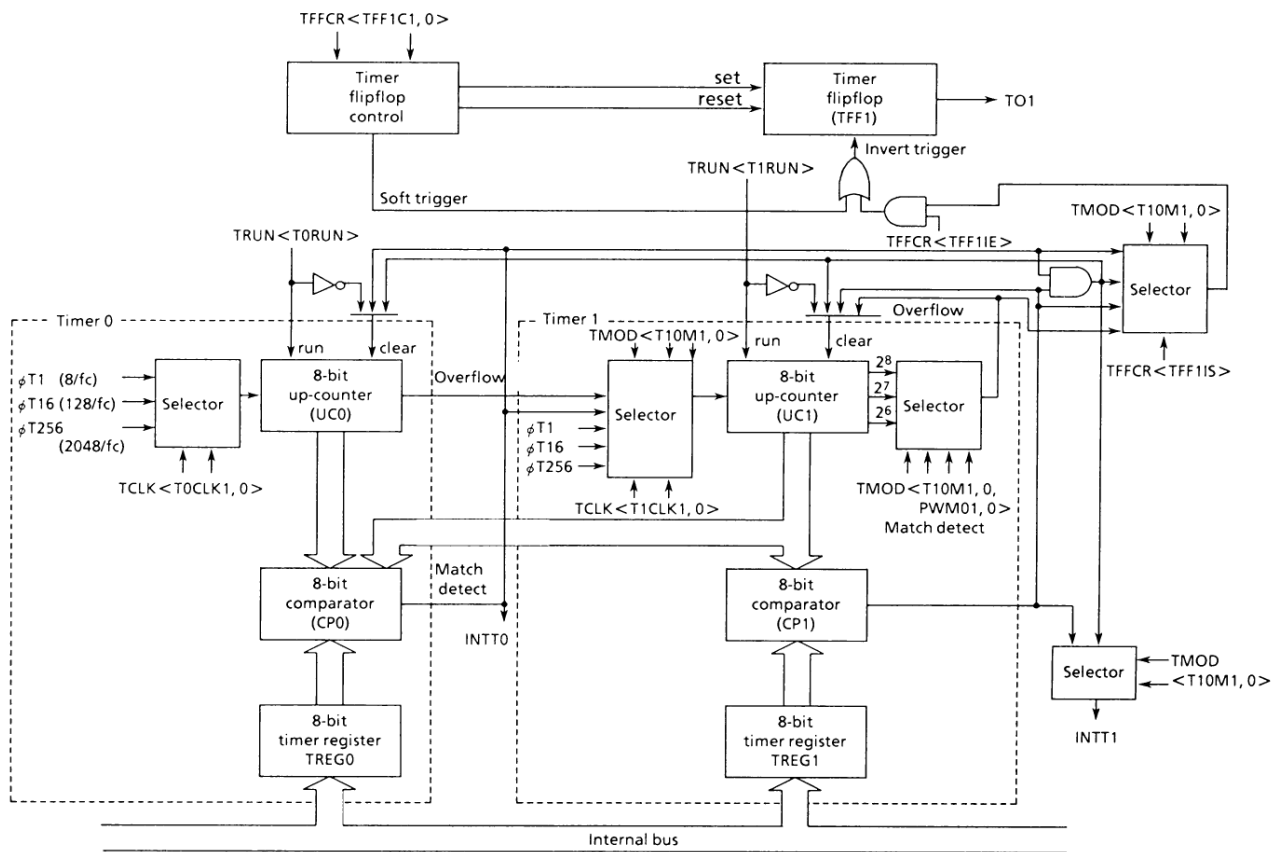

Figure 3.6 (1). 8-bit Timers Block Diagram (Timers 0 and 1)
The internal clocks  $\phi T1$ ,  $\phi T16$ , and  $\phi T256$  used as the input clocks to the interval timers are obtained from the 9-bit prescaler shown in Figure 3.6 (2).